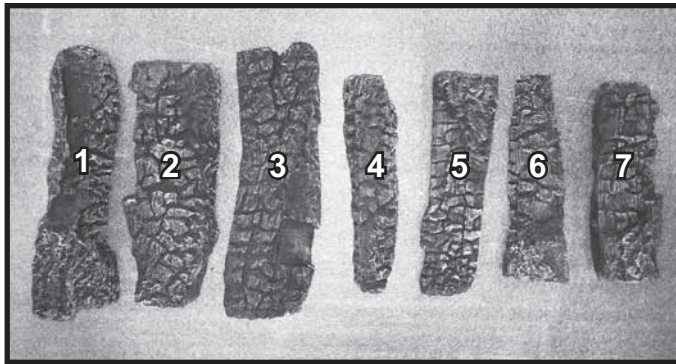

Figure 1. Log Identification - EXCURSION-I, TRILLIANT25I
**NOTICE: To simplify the installation process, use Figure 1 to positively identify each individual log before beginning installation.**